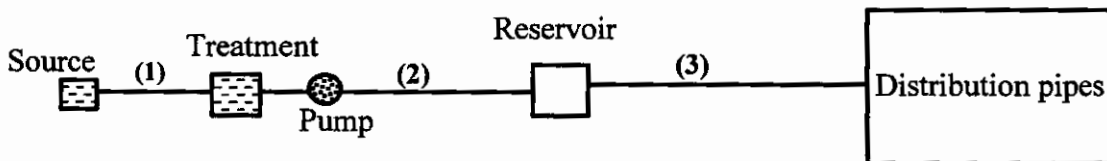

Figure Q1-1
C. The water supply system layout shown in figure Q1-1 below serves a daily average demand of 10 million liters per day. The unaccounted for water in the distribution pipes is estimated to be 20% of the average daily demand and the hourly peak factor is 1.4. The annual daily peak factor is 1.1. Assume that water losses along the pipes 1, 2 and 3 are 2% of the total flow carried by each of the pipes. In addition, assume that water loss in the treatment plant as 7% of the total water treated. Determine the flow in m3/sec for which each of the following components should be designed: